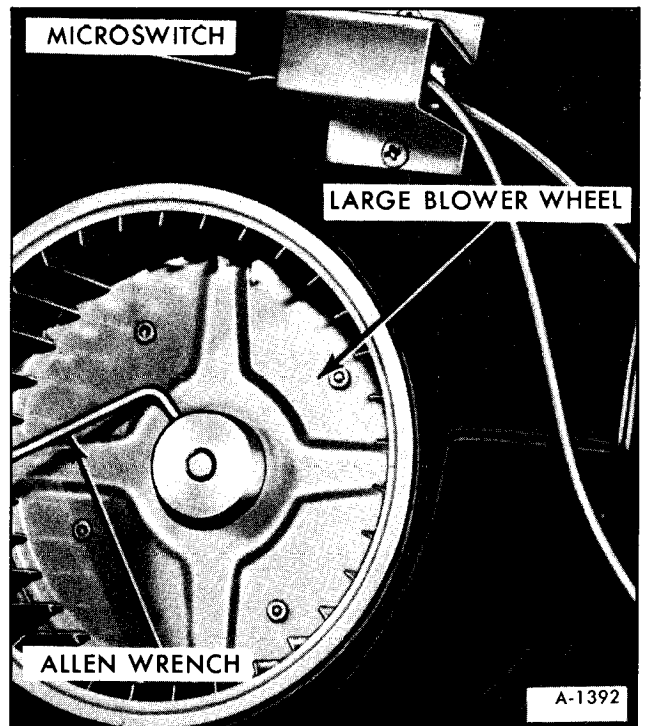

Figure 26-Removing Large Blower Wheel
7. Remove large blower wheel (1/8 inch Allen wrench) (See figure 26).
6. Install large blower wheel on motor shaft (1/8" Allen wrench) (figure 26).
6. Remove large blower wheel (1/8" Allen wrench) (See figure 26).
5. Install large blower wheel (1/8" Allen wrench) (figure 26).